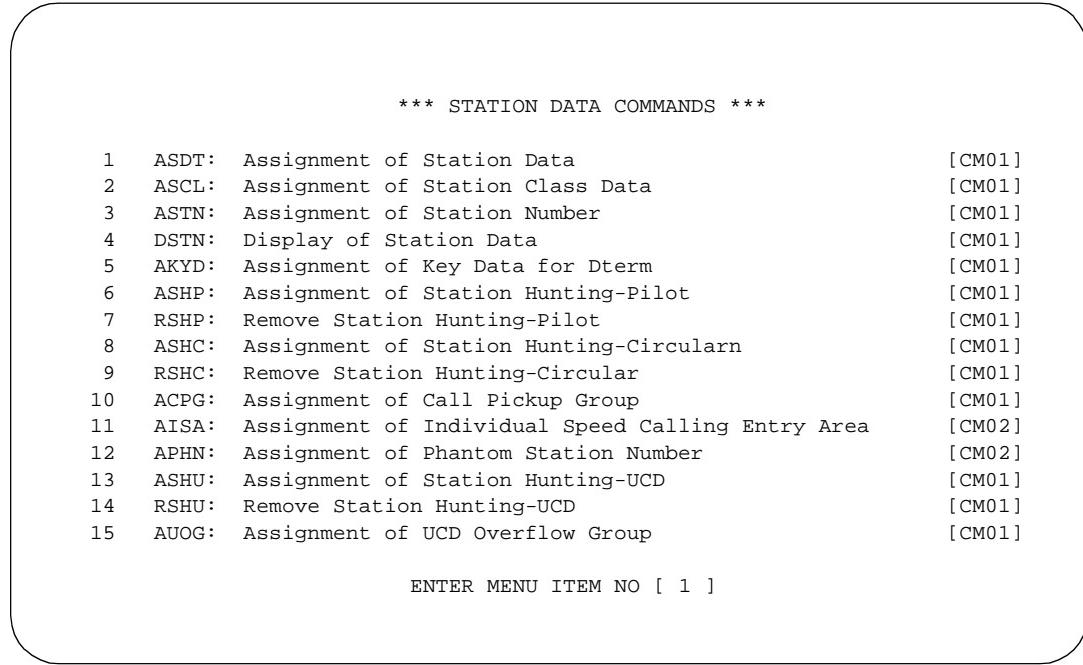
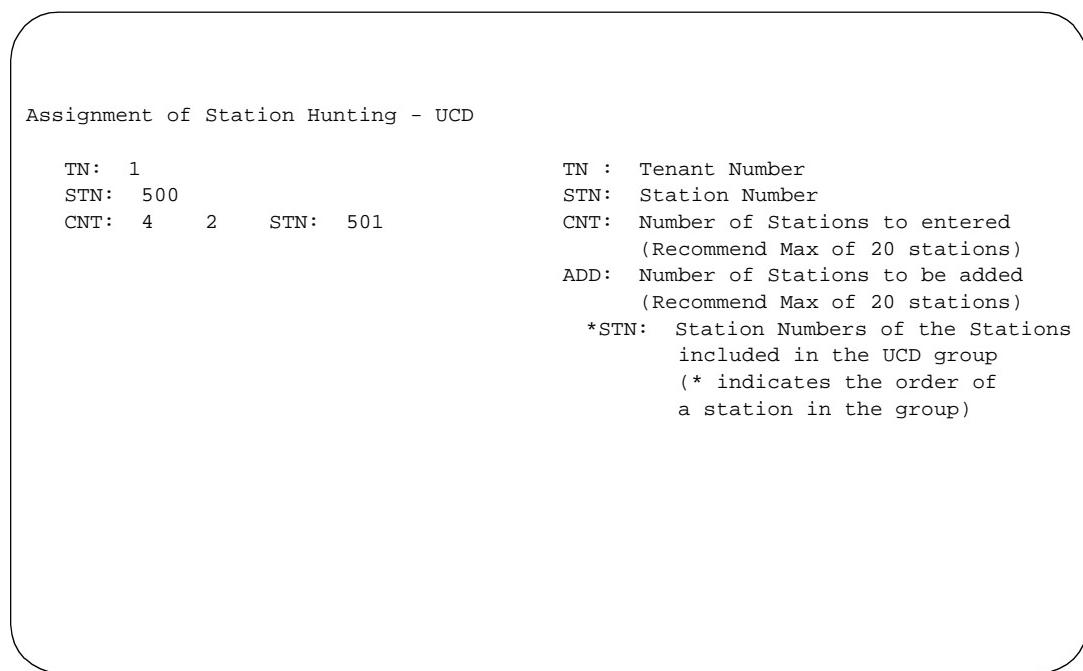

Figure 7-2. Station Data Commands Menu
Figure 7-4. Assignment of Station Hunting -UCD Screen
3. Enter **6** to select the Station Data option. After you select the option, you see the Station Data Commands screen as shown in Figure 7-2.
1. At the Station Data Commands Menu shown in Figure 7-2., enter **13** to select the Assignment of Station Hunting-UCD option. After you enter the selection, you see the Assignment Of Station Hunting - UCD screen as shown in Figure 7-4.